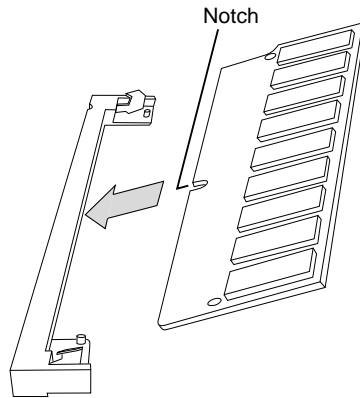

Figure 4. Inserting a SIMM into a Socket
1. **Grasp one of the SIMM by the edges, and turn it so the notch at the center of the SIMM faces the center of socket U7 (Figure 4).**